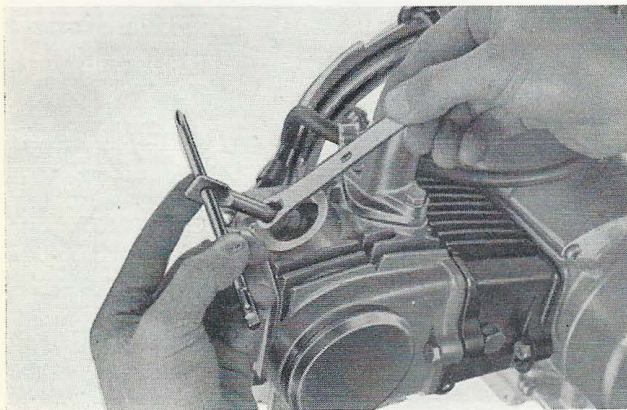

Figure 6-5. Locking the adjusting nut
- (1) The adjustment must be made with a cold engine and the clearance measured with a thickness gauge.
- (2) When locking the adjusting screw, hold the screw to prevent its turning. (Fig. 6-5)